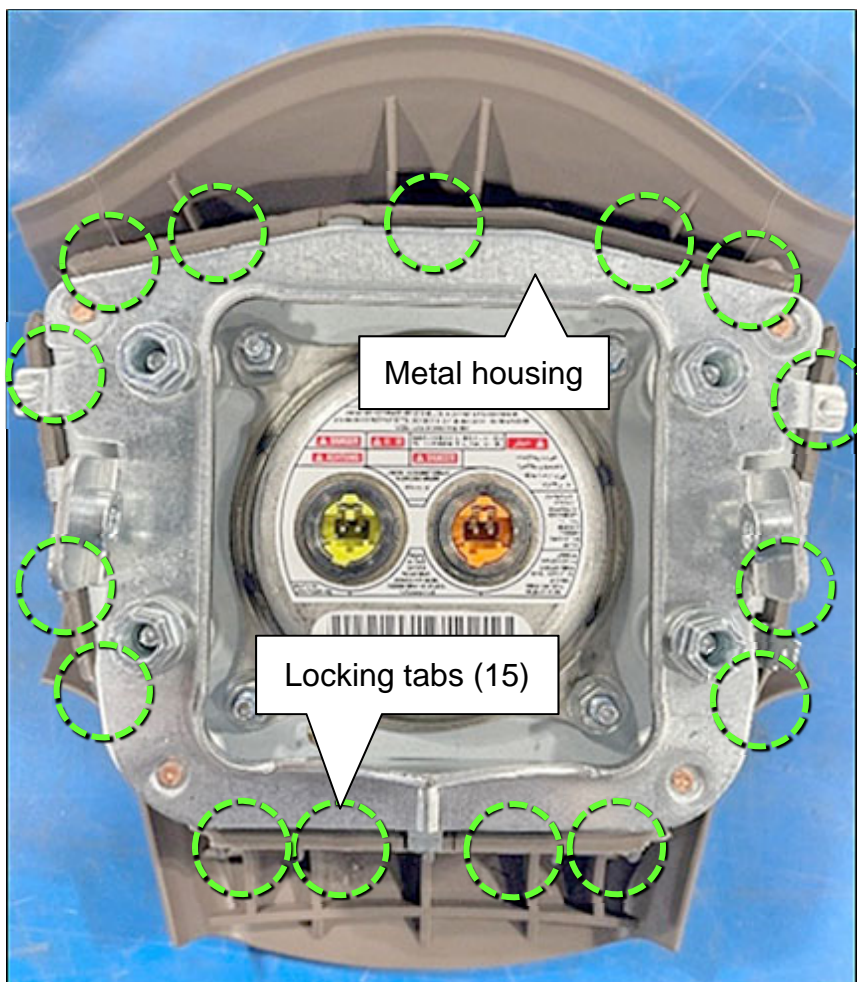
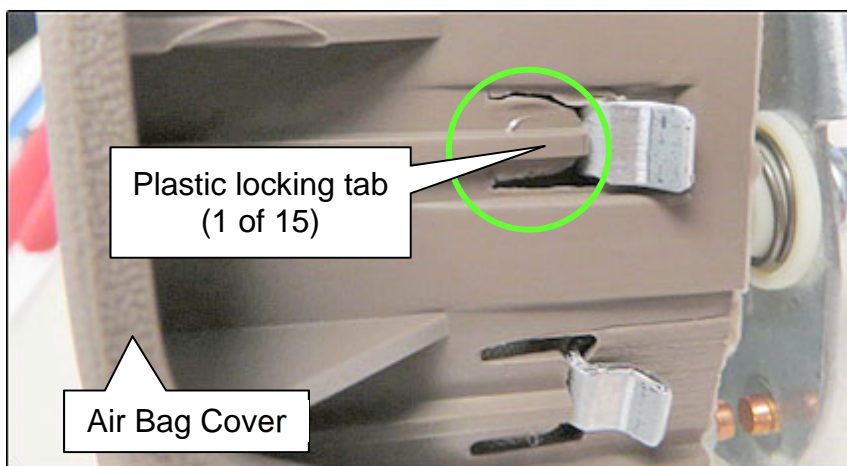

Figure 6
Figure 7
13. Locate the fifteen (15) plastic locking tabs (Figure 6 and Figure 7) that retain the Air Bag Cover to the metal housing.